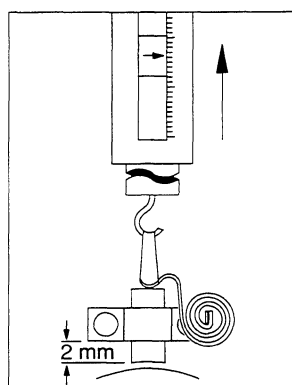

Fig. 12 Measurement of Brush Spring Force
- (i) Ensure that the insulating plate, if fitted, is located on the assembled brush gear mounting plate (30) and that an insulating bush and O-ring are fitted to both the terminal (20) and the tie-bolt (28).
- (ii) Mount the assembled brush gear plate (30) into the assembly jig, locking the brush gear in position with the terminal and tie-bolt nuts. Ensure that the tie-bolt is adjacent to the felt breather hole.
- (iv) Use a hook to lift the brush springs and fit the four brushes. Check the spring force by hooking a spring balance at the junction of the two brush leads, where they are soldered to the tag. Raise the brush squarely in its holder until the brush protrusion is 2 mm as shown in fig. 12. Read the force indicated by the spring balance. If the force is outside the limits, fit new brush springs. See Section 6.5 (BRUSH DETAILS).